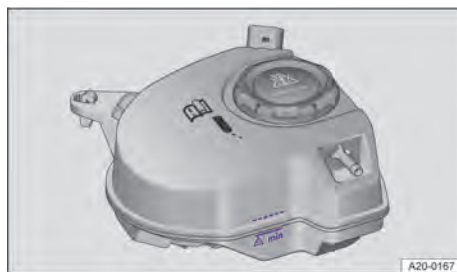

Fig. 201 In the bonnet space: marking on the coolant expansion tank (illustration).
1. Check the coolant level at the side markings of the coolant expansion tank when the coolant is cold → Fig. 201. The coolant level must be between the marks
2. Add only new coolant in accordance with the specification up to the upper level marking → page 342. After adding the coolant, the coolant level must be between the markings on the coolant expansion tank → Fig. 201.